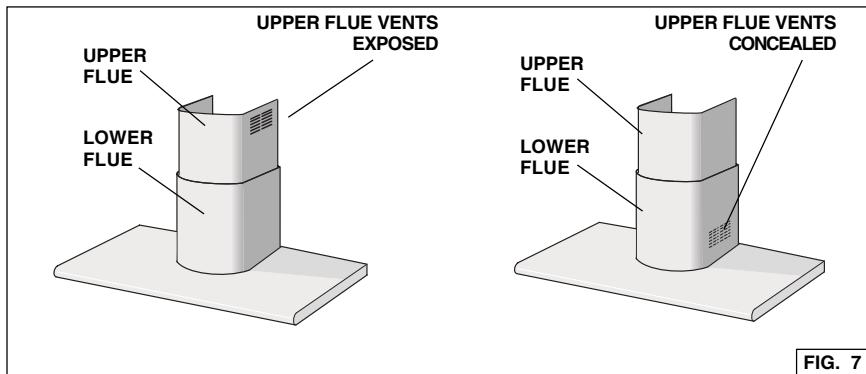

FIG. 7
5. Carefully place the lower decorative flue into the recessed area of the range hood top. Fig. 7
6. Carefully slide the upper decorative flue down inside the lower flue. Fig. 7
8. Carefully place the lower decorative flue into the recessed area of the range hood top. Fig. 7
Note: air vents must be up. Fig. 7